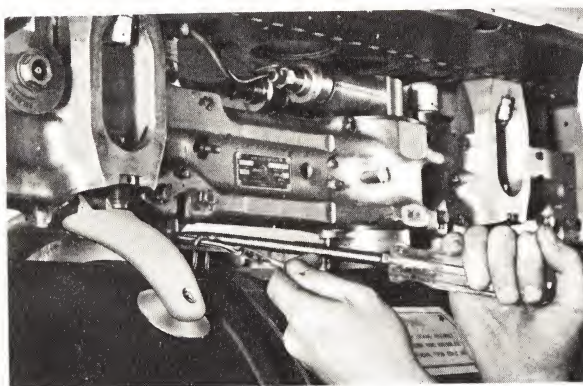

Figure 4-10. Lever Locking Pin Assembly Removed
6. Remove lever locking pin assembly, figure 4-10, from each suspension band by depressing levers, using 15-inch pinch bar or large screwdriver.